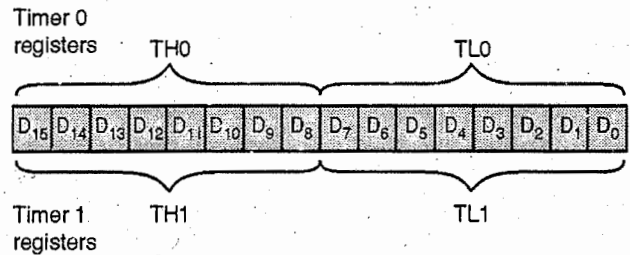

Fig. 1.20.1 : Timer 0 and Timer 1 registers
- Fig. 1.20.1 shows the timer 0 and timer 1 registers. These registers can be accessed like other registers A, B, R0, R1 etc.